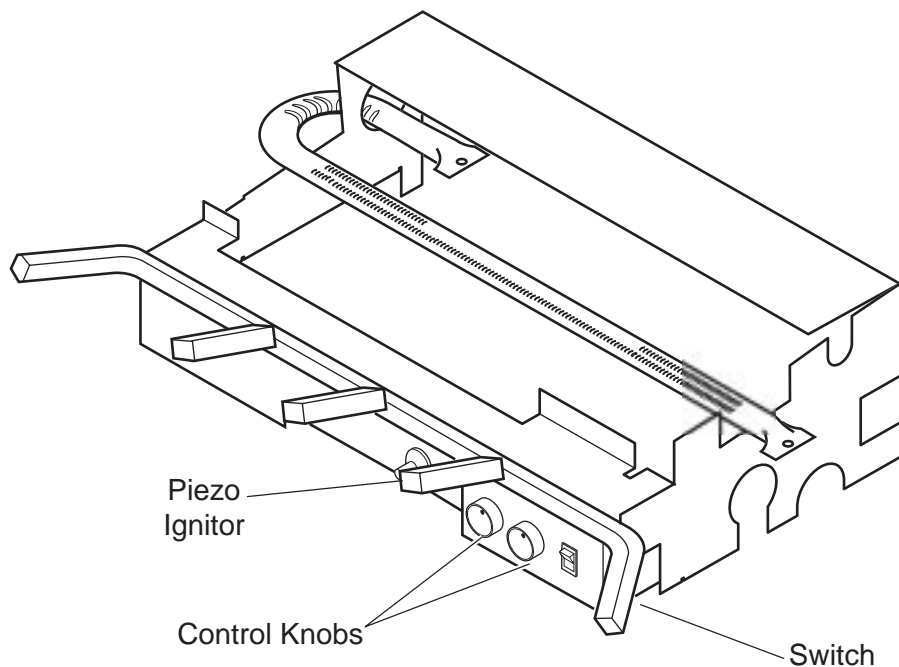

Figure 24 - Location of Piezo Ignitor, Control Knobs and Switch on Millivolt Unit
4. Refer to *Figure 24, page 24* for the location of the piezo ignitor and control knob. Push in gas control knob slightly and turn control knob clockwise  to the OFF position.